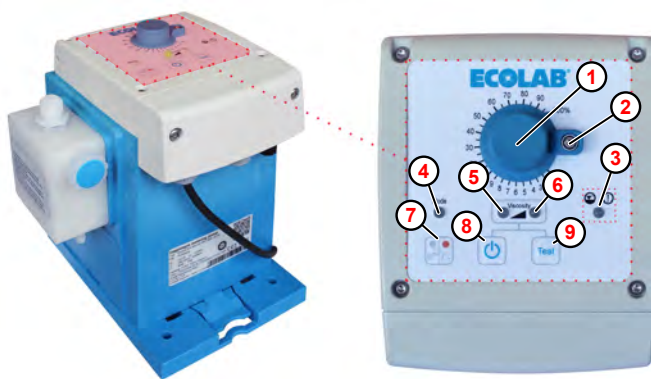

Fig. 15: On/Off button of the 'EcoUp'
1. ➔ Switch the pump on and off using the ON/OFF button ( Fig. 15 , ⑧ ).
*Depending on the dosing mode selected, either the left LED ( Fig. 15 , ⑤ , Viscosity low) or the right LED ( Fig. 15 , ⑥ , Viscosity high) lights up or flashes. In 'Standby', the corresponding LED lights up green, as soon as the pump starts dosing it flashes yellow.*
1. ▶ The first time the pump is switched on, it is set to Manual mode, with the Mode LED ( Fig. 15 ,  ) OFF. The pump starts running as soon as it is switched on and the Mode / Dosing mode LED  or  lights green.